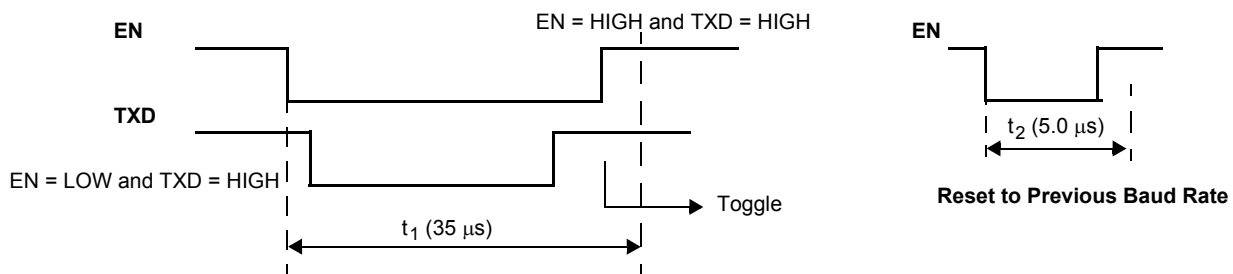

Figure 13. Fast Baud Rate Selection (Toggle Function)
15. See Figure 13, 11.
Fast mode can be selected from either Normal or Slow mode. Fast mode is entered via a special sequence (called toggle function) as follows: TXD and EN pins set Low, then TXD pulled High, and at the EN pin Low-to-High transition, the device enters into the Fast Baud rate. The duration of this sequence must be less than 35  $\mu$ s. The toggle function is described in Figure 13. Once in the Fast mode, two different procedures will bring the device back to the previously selected mode (Normal or Slow):
- A glitch on EN where  $t_2 < 5.0 \mu$ s also resets the device to the previously selected mode (Normal or Slow) (Figure 13).